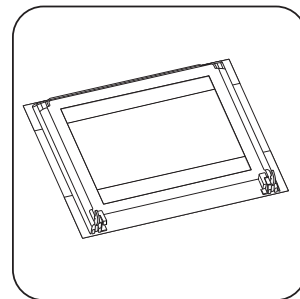

Figure 33: Place door on soft surface
4. Put the door on a soft cloth on a stable surface (Figure 33).